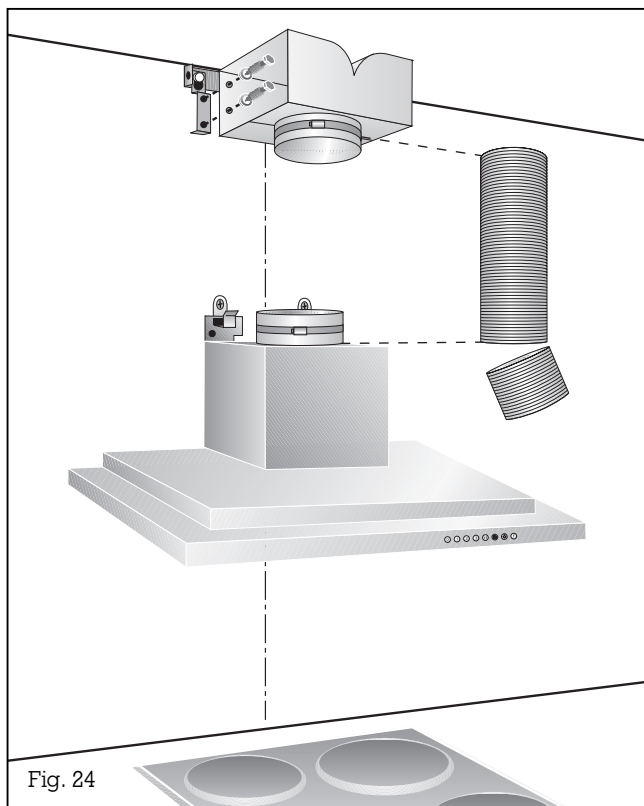

Fig. 24
- Shorten the flexible air pipe accordingly. Fix the flexible air pipe with hose clamps (Fig. 24).